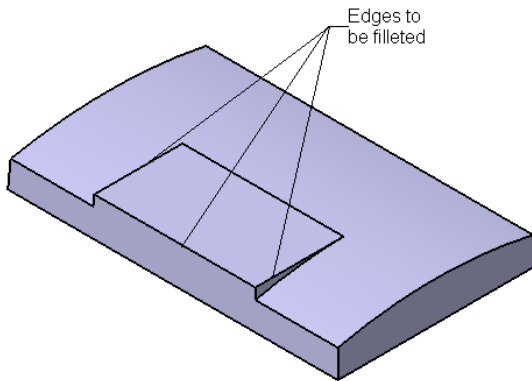

Figure 5-94 Edges to be selected
- d. Fillet the edges of the model, refer to Figures 5-94 through 5-99.
2. Select the edges shown in Figure 5-94 and set the value of the **Radius** spinner to **3**.